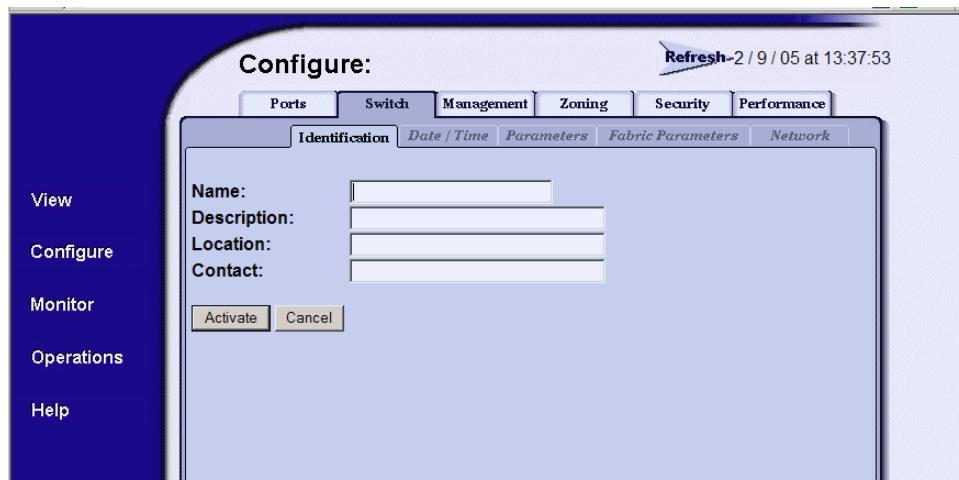

Figure 43 Switch page—Identification tab
1. At the Configure window, click the **Switch** tab. The Switch page is displayed with the Identification tab selected (Figure 43).